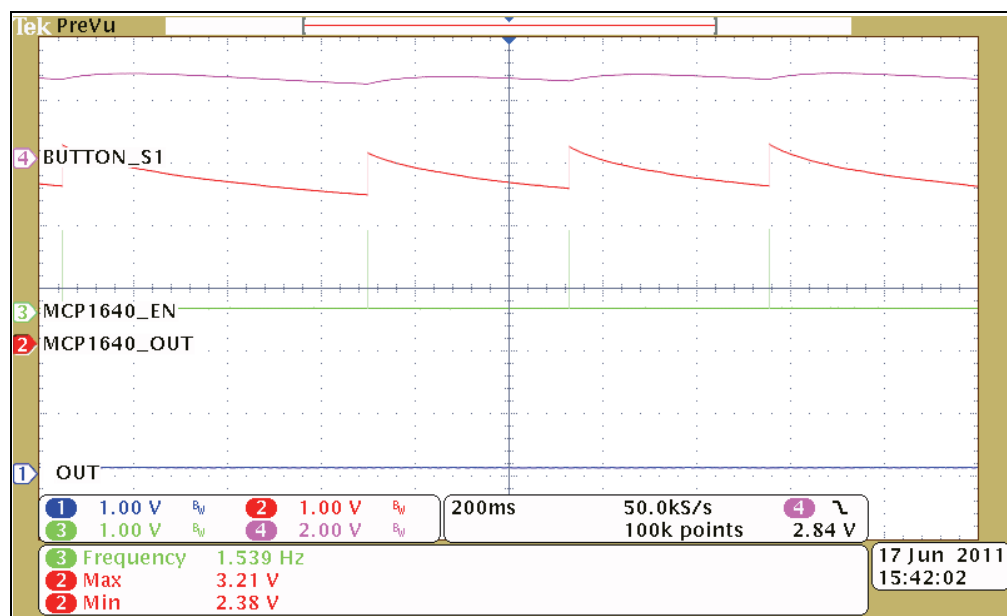

FIGURE 2-4: Waveforms while MCP1640 is Shutdown (OUT is off).
- Added Figures 2-4 and 2-5 in **Section Chapter 2. “Installation and Operation”**, (**Section 2.2.2**).